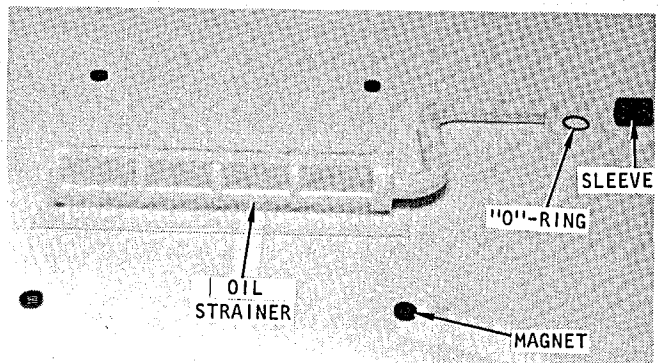

Figure 57
- Remove the 4 magnets in the bottom of the crankcase. Figure 57 illustrates the oil strainer and crankcase magnets.